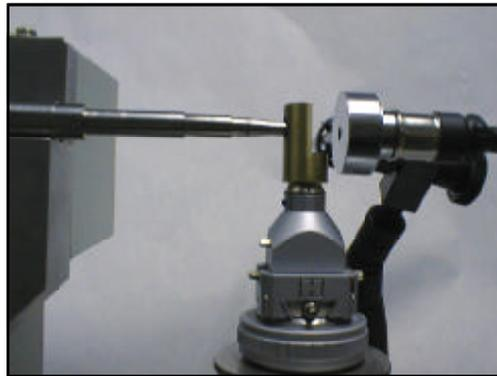

Figure 2-10. Pinhole jig mounted.
- 6) **Close the shutter** and mount the goniometer head with the pinhole jig in place on the ϕ -assembly, Figure 2-10.